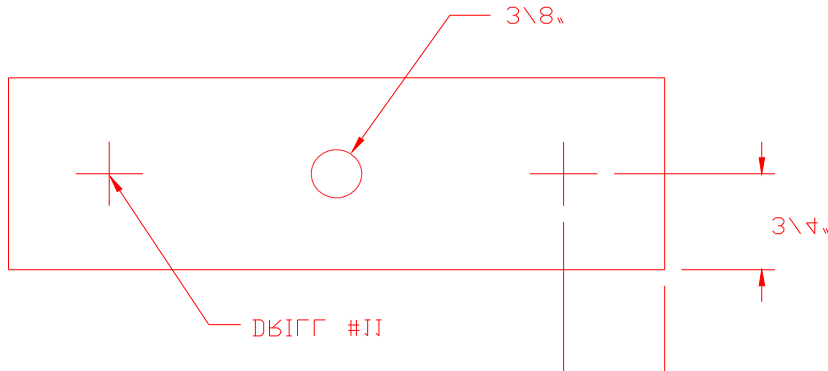

Figure 10.3.1
- 1) Layout and drill a pair of SG-4 Plates and a pair of SG-3 Plates as per figure 10.3.1.